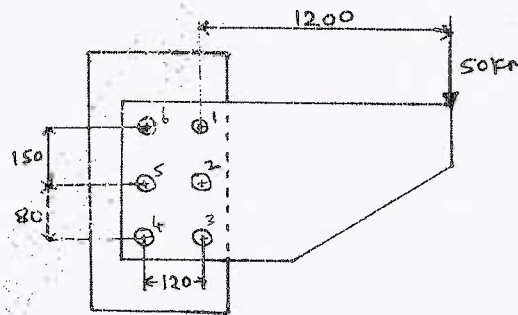

Fig.Q7(b)
b. Determine the diameter of rivet for the joint shown in Fig.Q7(b). The allowable stress in the rivet is  $100 \text{ N/mm}^2$ .